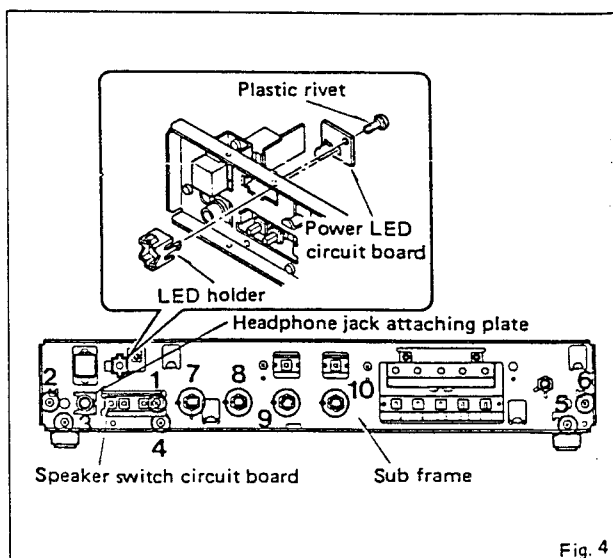

Fig. 4
- c. Remove the power LED circuit board by removing the LED holder and plastic rivet as shown in fig. 4.
- d. Remove screw ① and headphone jack attaching plate in fig. 4, and remove the speaker switch circuit board.
- e. Remove hexagonal nuts ⑦ through ⑩ in fig. 4.
- f. Remove screws ② through ⑥ in fig. 4 and then remove the sub frame.